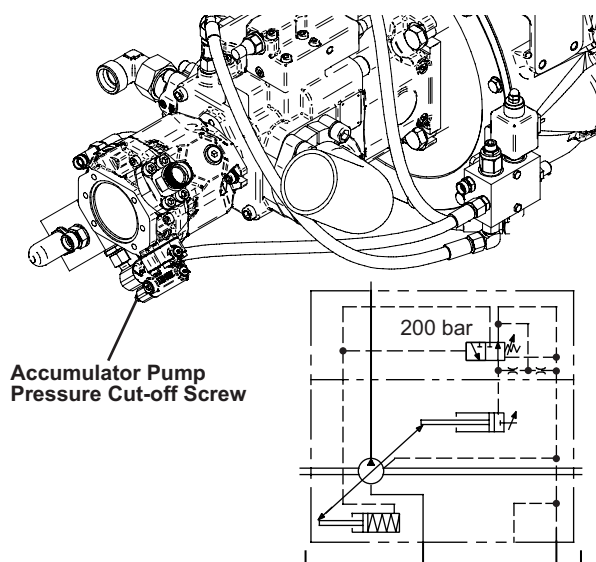

Figure 42
2. Loosen the jam nut on the pressure regulator of the accumulator hydraulic pump (Figure 42). Turn the screw *in* (clockwise) to increase the pressure or *out* (counterclockwise) to decrease pressure. Lock the jam nut when the pressure is correct.